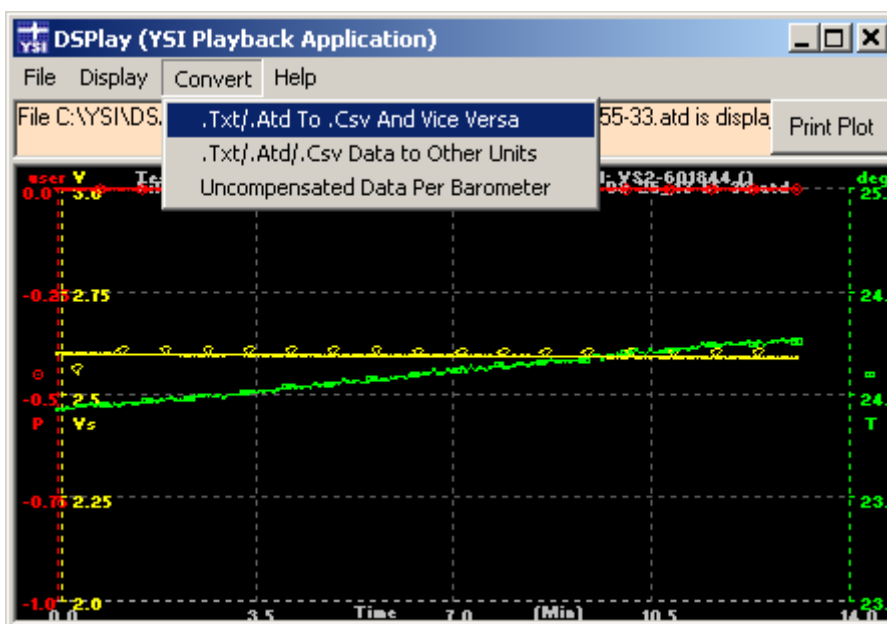

Figure 3.36
- Convert any human-readable text file (.atd or .txt) into its equivalent spreadsheet import version (.csv) and vice versa (figure 3.36).